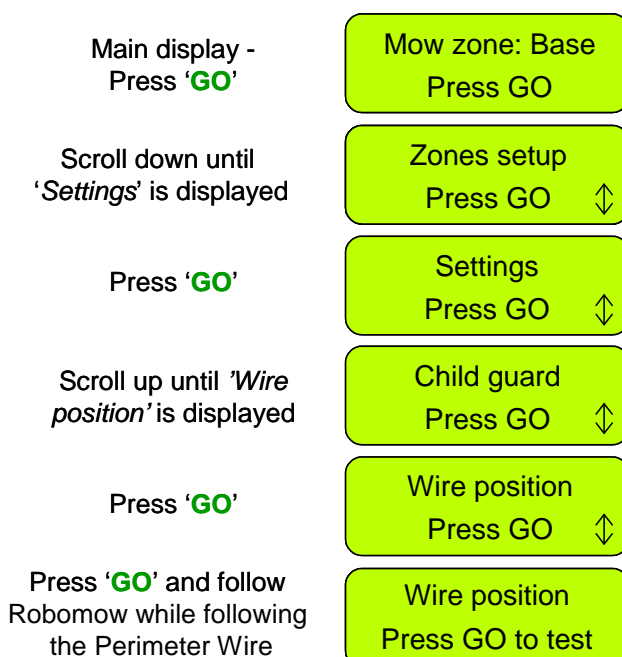

Figure 1.44
- The Perimeter Switch has an automatic shutoff feature, eliminating the need for you to turn it off after each use. It will shut itself off after 12 hours of operation. You may manually turn the perimeter switch off by pressing the '**ON**' button continuously for 3 seconds. A beep will be heard after the three seconds, indicating you may release the button and the switch is off. Test the perimeter wire setup by choosing the '**Wire position**' menu as shown in figure 1.44. Robomow will follow the wire, while the mowing motor is switched off to prevent any damage to the perimeter wire after the initial setup; Walk along the side of the Robomow while it is following the edge until completing one loop of the perimeter without striking any object; If Robomow collides in obstacle, it stops and drives back to allow you adjusting the wire position.